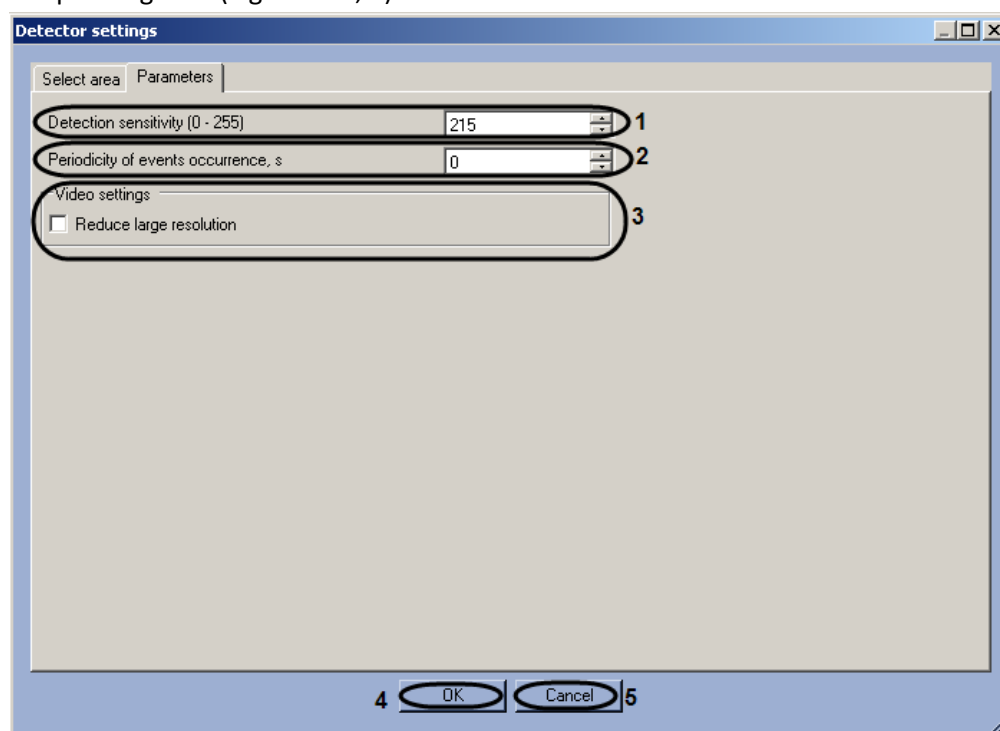

Fig. 7.5—5 Specify parameters of Traffic Light Detection software module
- 4.3 Enter the time period (in seconds) between creating messages about the states of traffic light signal in the «Periodicity of events occurrence, s» field (Fig. 7.5—5, 2).
- 4.4 Set the «Reduce large resolution» checkbox if the state of traffic light signal is to be recognized on the frame (Fig. 7.5—5, 3).
5. Click «OK» to save changes and to return to the settings panel of the «Traffic Light Detection» object (Fig. 7.5—5, 4).